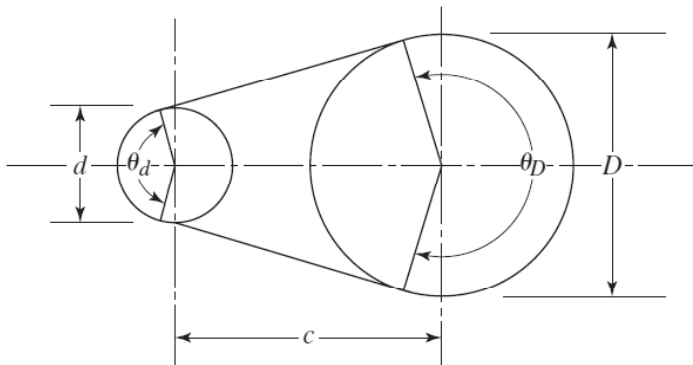

Figure 2: Open belt drive.
The length L of a belt in an open-belt drive, Figure 2, is given by
- Specific to our open belt drive problem in Figure 2,